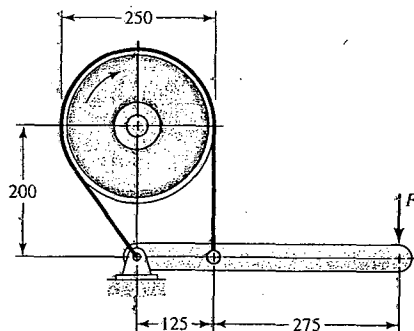

FIG. 15.b
- 15.b) The brake shown in Fig.15.b has a coefficient of friction of 0.30 and is to operate using a maximum force  $F$  of 400N. If the band width is 50mm. Find the band tensions and the braking torque.